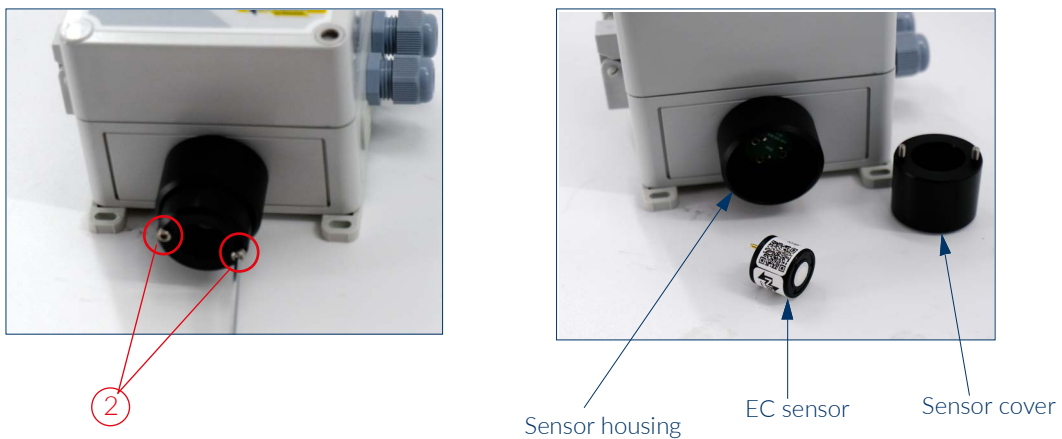

Figure 7. Replacing the EC sensor
2. Remove the screws from the bottom of the sensor housing using a 2.5 mm hex-driver, as shown in Figure 7.